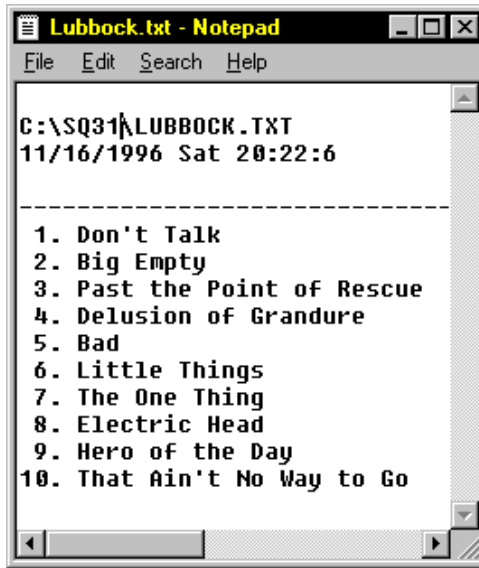

Figure 7.25. Song Order Text File Example
2. Open the song order text file (.txt). Refer to Figure 7.25.